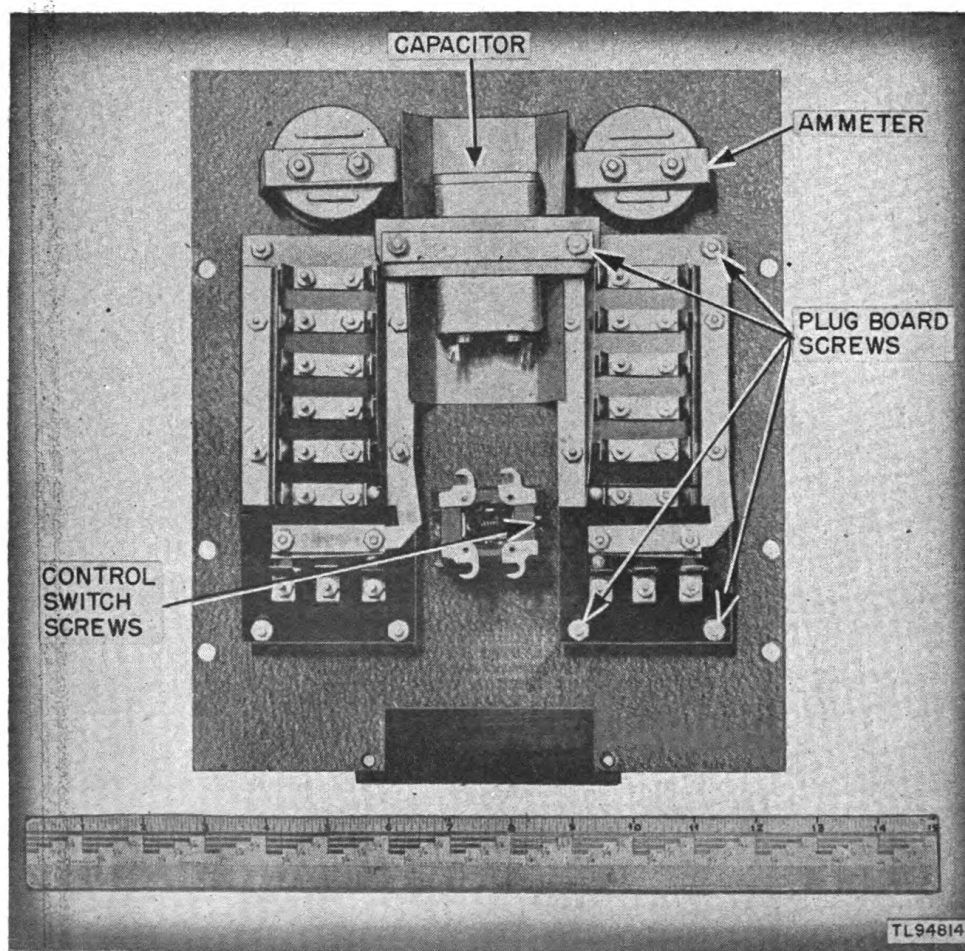

Figure 16. Rectifier RA-36-(1) and rectifier 6RB6B17, rear view of control panel.
(6) Remove the four screws located in the four corners of each of the two charging rate adjustment panels (plug boards) mounted on the front panel, and remove plug boards and capacitor. (See fig. 16.)
(7) Remove the two screws used to mount the ON-OFF control switch. (See fig. 16.)